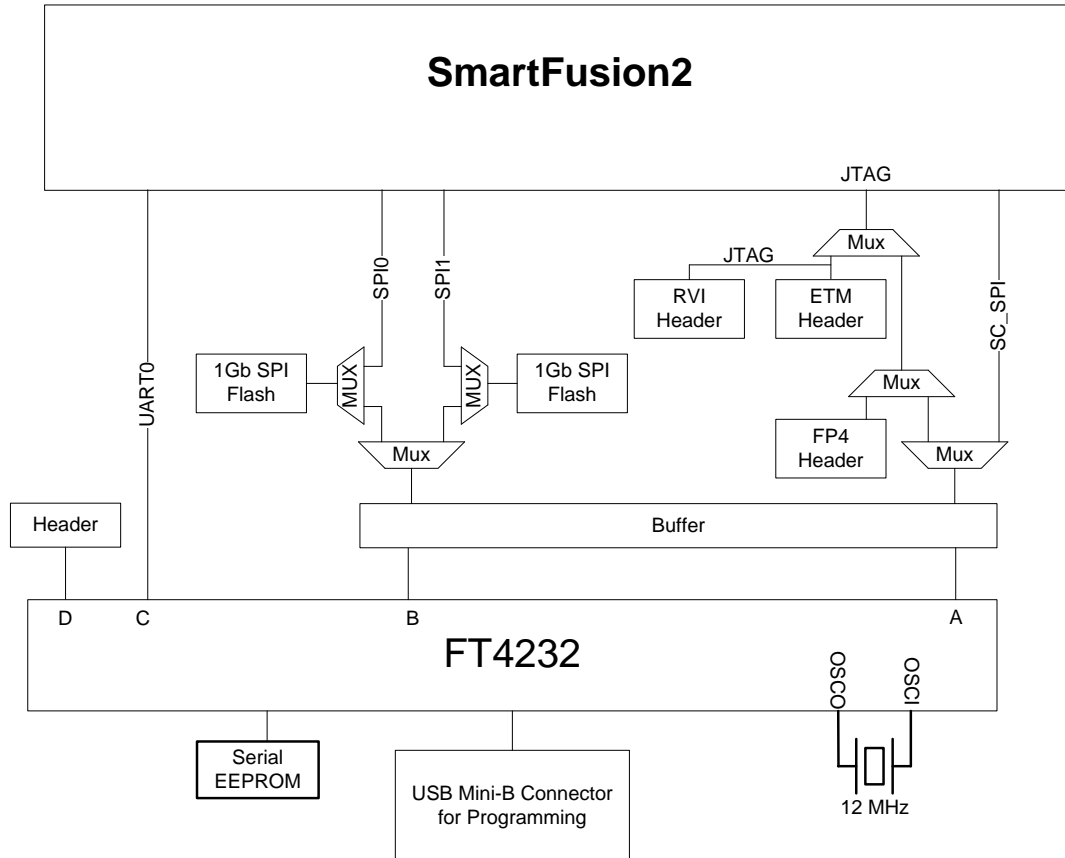

Figure 13 - Programming Interface
- For interface details refer to Figure 13.